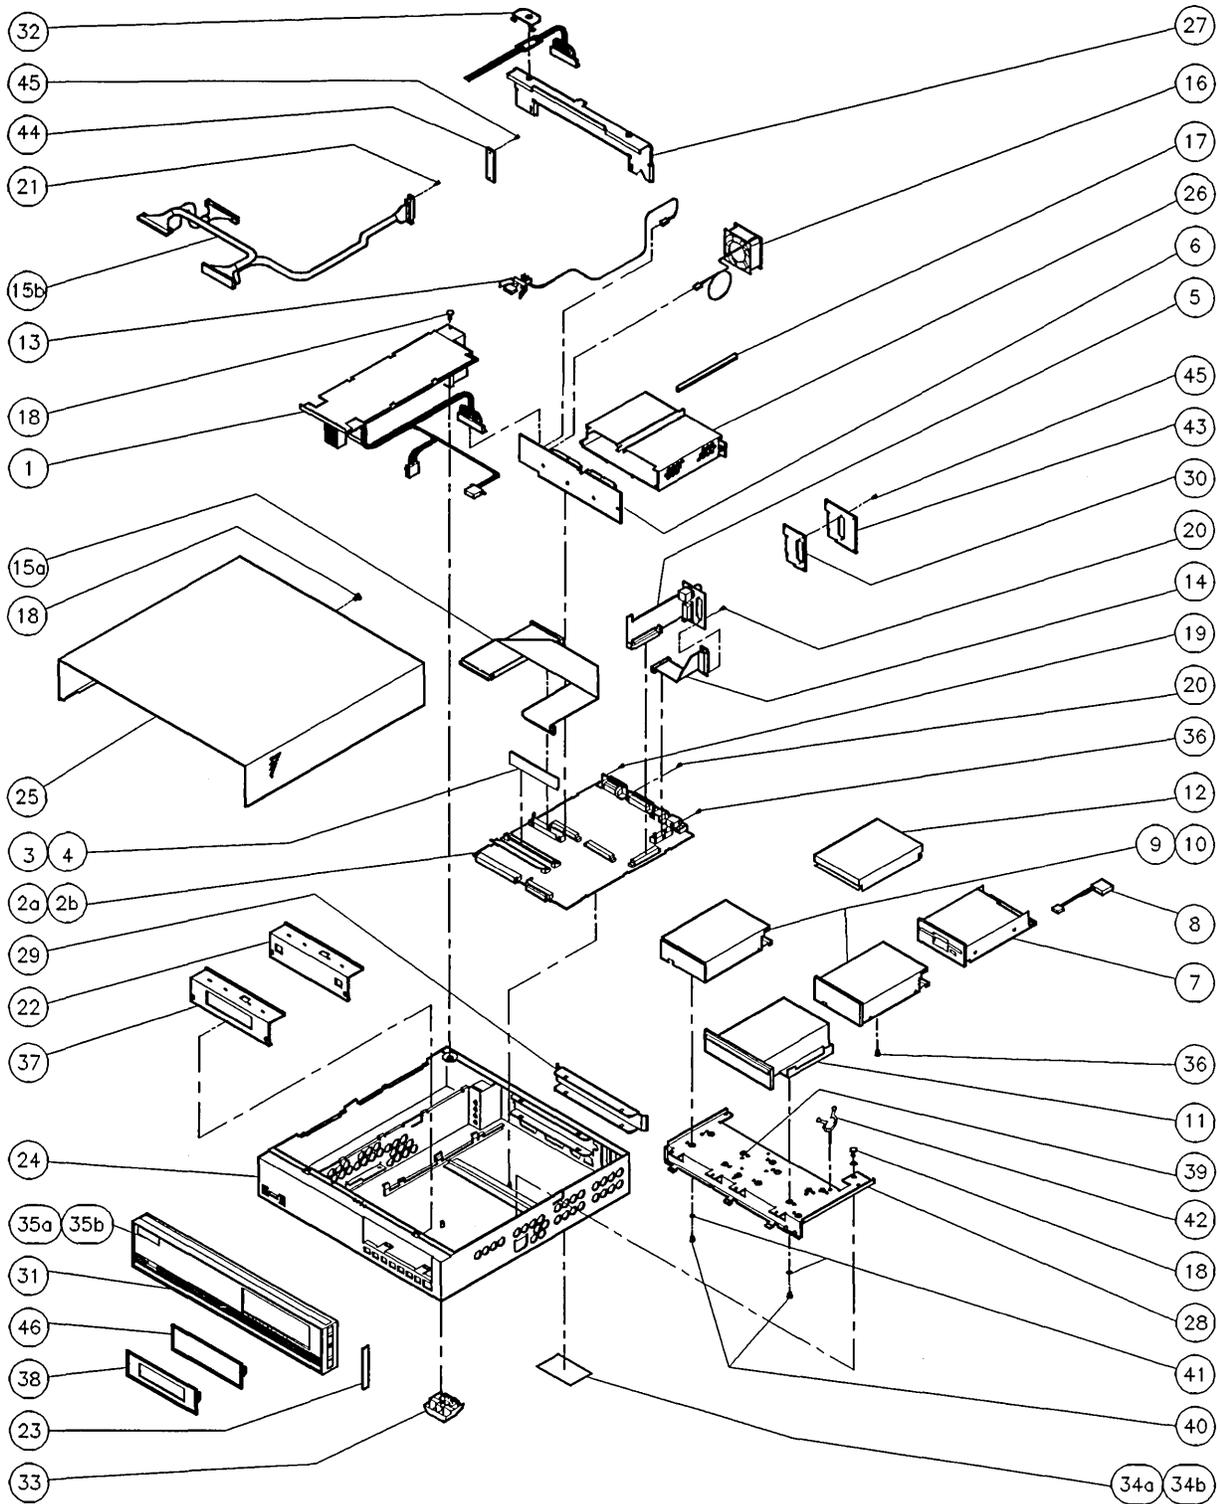

Figure 2-2. Model 362 Controller and Model 382 Controller Exploded View
- ▣ Exploded view shown in Figure 2-2.